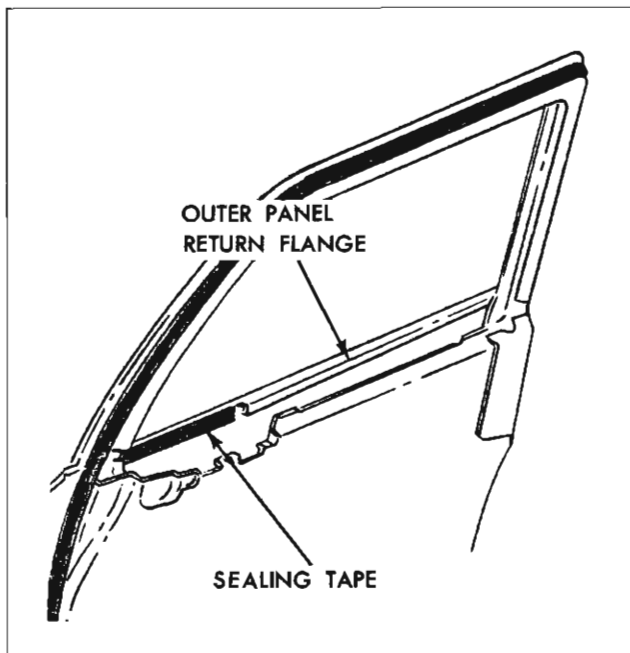
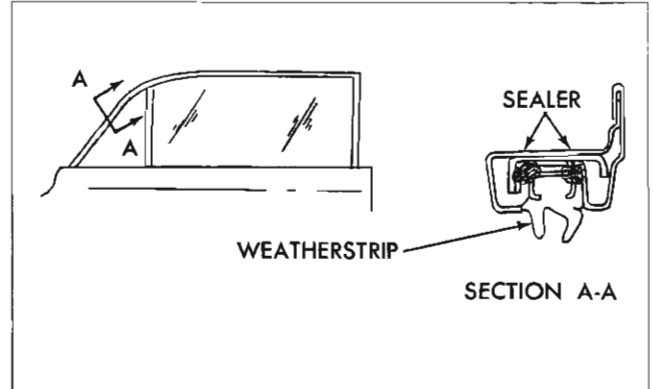

Fig. 3-31 Ventilator to Door Outer Panel Sealing
Fig. 3-32 Ventilator to Door Upper Frame Sealing
7. To install, reverse removal procedure. Prior to installation however, apply a strip of body water-proof sealing tape to door outer panel return flange along area contacted by ventilator weatherstrip. (Fig. 3-31). Also, apply a double bead of sealer (body caulking compound) in door upper frame at ventilator area as shown in section A-A of Fig. 3-32.